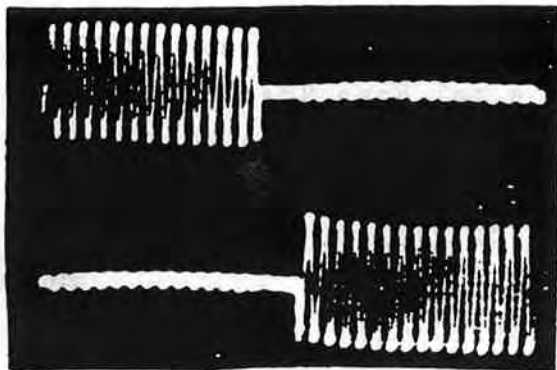

figure 4
(B) Connect a dual trace oscilloscope to the cell output leads (DO NOT connect these leads to the preamp yet). Thread and run the STEREO ALIGNMENT film #97. Move the cell in and out until the crosstalk is at a minimum on both channels (figure 4).